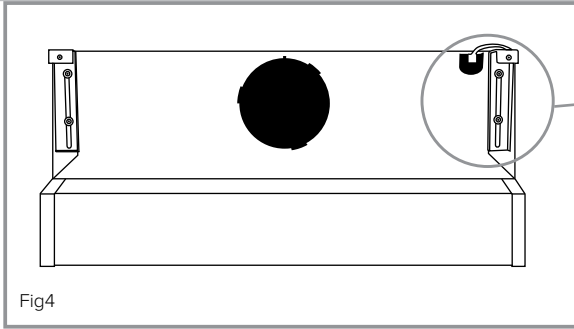

Fig4
4. Hang the hood on the brackets and adjust the brackets and height to suit. The adjustment mechanism is shown on page 14, Fig 4.